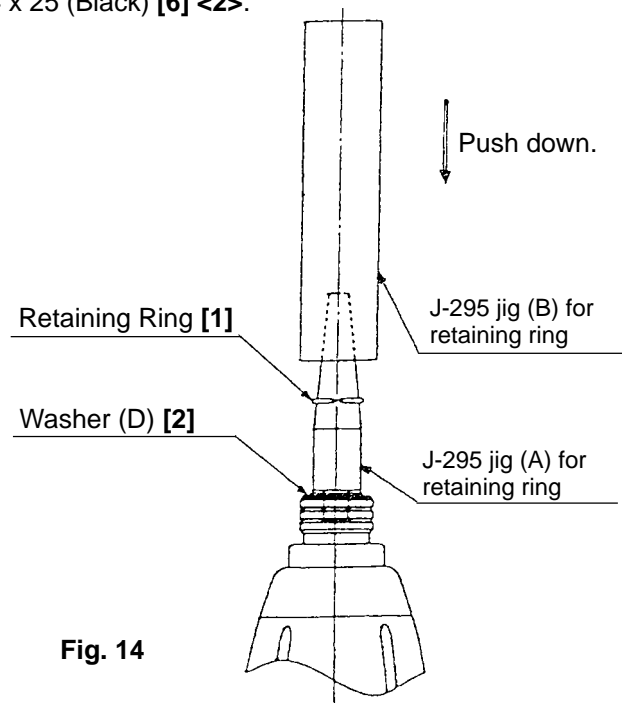

Fig. 14
(6) Mounting Guide Sleeve (A) [4] (WH 9DM only)
Insert the two Steel Balls D3.5 [8] into the hole of Anvil (C) [9]. Mount the Guide Sleeve (A) [4], Guide Spring [3] and Washer (D) [2] in sequence. Mount the Retaining Ring [1] into the groove of anvil using the J295 jigs (A) and (B) for retaining ring as illustrated in Fig. 14.